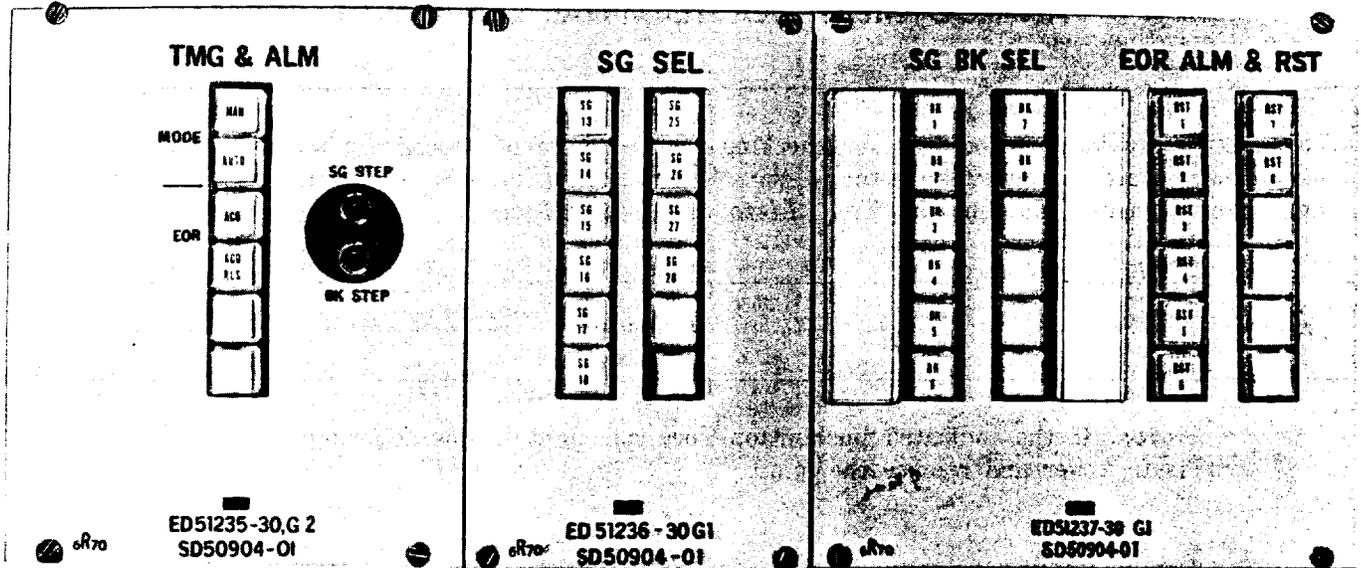

Fig. 1—Scanner Control Panel
- 1 Depress the MAN pushbutton on the scanner control panel (Fig. 1).